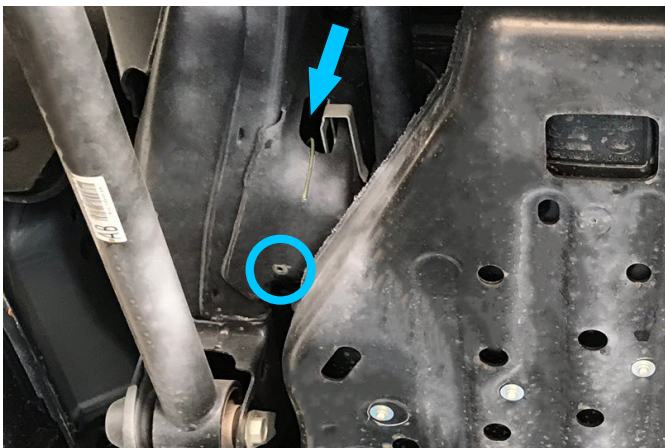

Fig. 7
7. Install insert nut M10 with wires (item C) into hole, as shown in fig. 7.